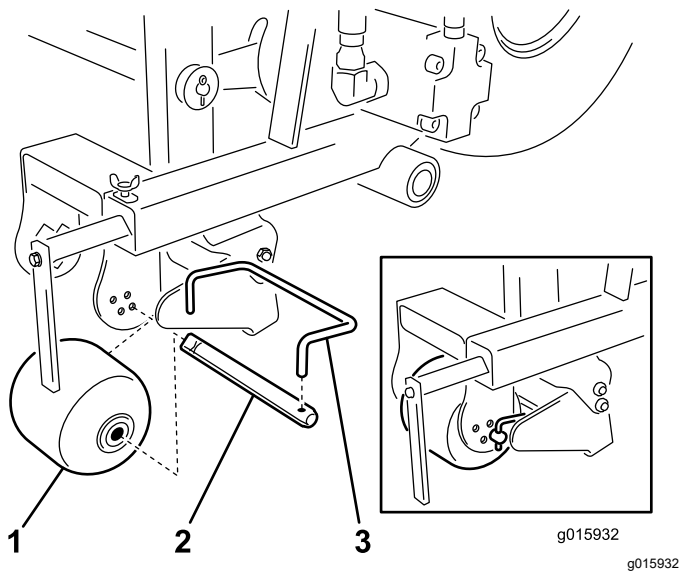

Figure 13
3. Remove the scraper rod from the roller shaft (Figure 13).
4. Remove the roller shaft from the roller (Figure 13).